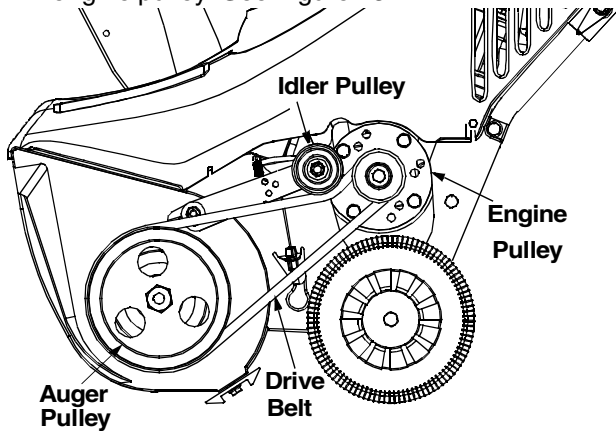

Figure 13
- Pull up on the idler pulley and slip the belt off the engine pulley. See Figure 13.
- Push down on the idler pulley and slip the belt off the auger pulley. See Figure 13.